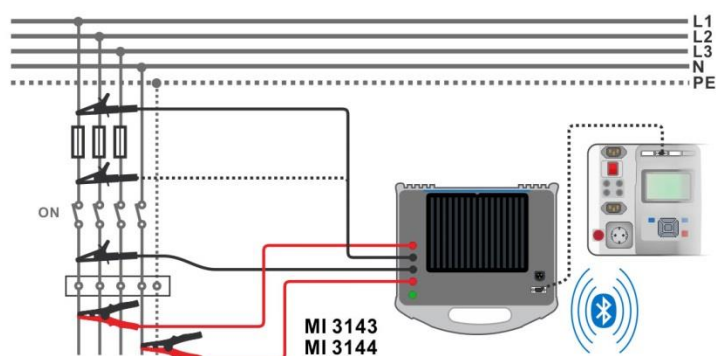

Figure 6.82: High Current resistance measurement
- › Connect test leads to the object under test, see **Figure 6.82**.